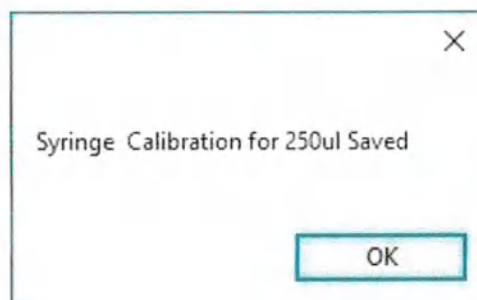

Figure 66
9.5.7.13 Enter the measured volume (μL) and press the "OK" button. The pump calibration factor will be calculated automatically and a message will appear below if the result is within the acceptable range [Figure 66].